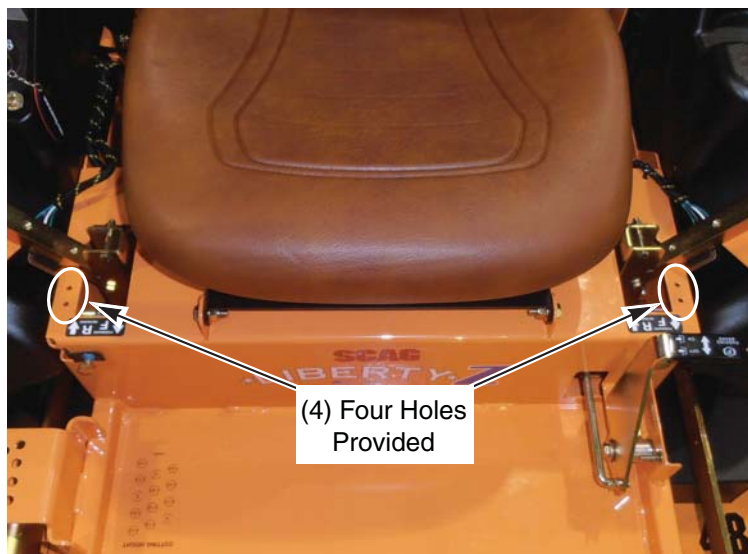

Figure 1. Mounting Holes Provided
2. Locate the (4) four holes provided in the machine chassis adjacent to the RH & LH control levers. See Figure 1.